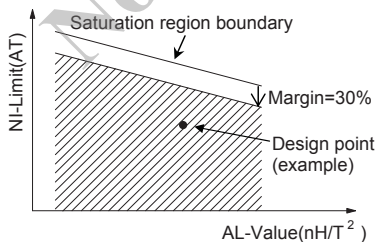

Figure 53. Example of NI-Limit versus AL-Value characteristics
When choosing a ferrite core to match the relationship of NI-Limit (AT) versus AL-value, it is recommended to set the calculated NI-Limit value below about 30% from the NI-Limit curve of ferrite core data, as shown in the hatched area containing the design point in figure 53, to provide a design margin in consideration of temperature effects and other variations, as expressed by the formulas below: